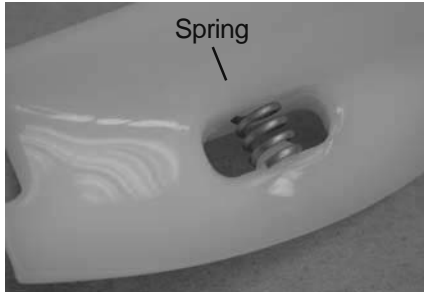

Figure 17. Auger Flight Spring
5. Turn springs into the plastic flights (See Fig.17). Install first flight to bottom of auger, rotate, add successive flights from bottom as the auger is pushed slowly into the freezer barrel. Carefully engage auger with drive socket in speed reducer by rotating auger slowly and pushing on end of auger. The front door will push auger into its final position when the door is tightened down.